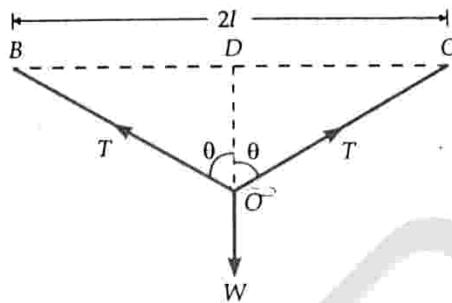

Fig. 9.30
**Solution.** The situation is shown in Fig. 9.30. The increase in length of the wire when it is pulled down into shape  $BOC$  is